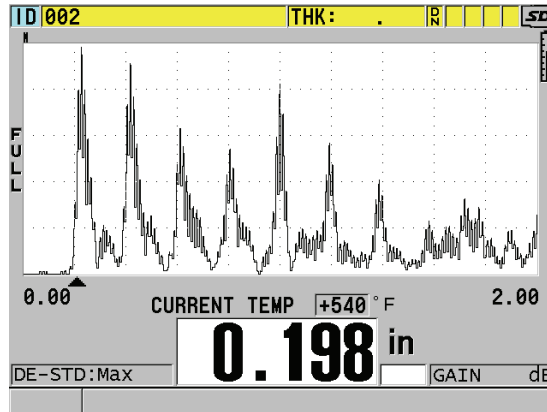

Figure 10-19 Displaying temperature compensation data
4. Press [MEAS] to return to the measurement screen with the activated temperature compensation (see Figure 10-19 on page 156). The measured thickness is temperature-compensated based on the **CALIBRATION TEMP**, the **CURRENT TEMP**, and the **TEMP COEFFICIENT** parameter values.